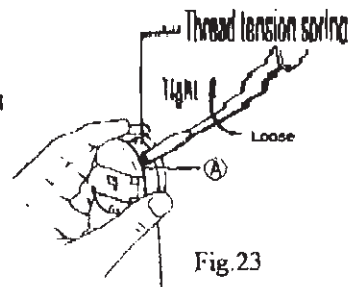

Fig.23
23. Lower thread tension (Fig.23):